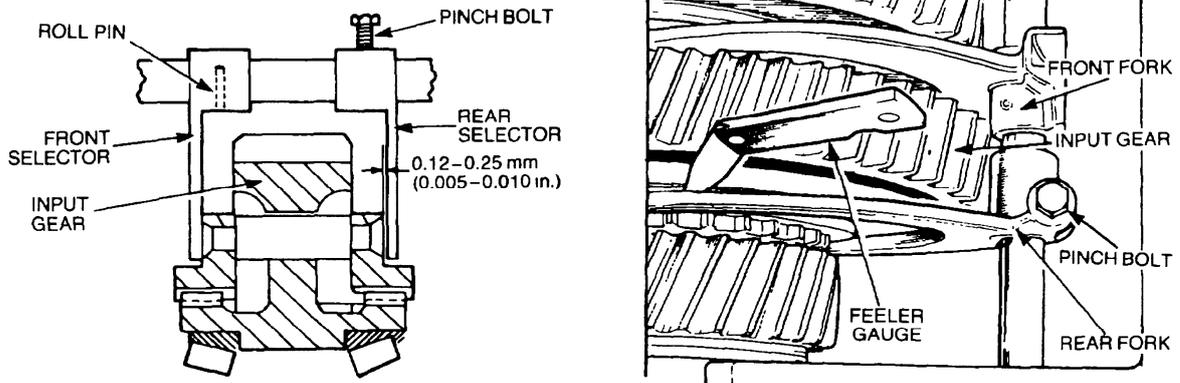

Figure 215 Adjustment of the Transfer Selectors
- s. Adjust the rear fork position on the selector shaft to allow a clearance of 0.12 to 0.25 mm (0.005 to 0.010 in) between the front face of the rear fork and the rear face of the input gear inner member (Figure 215). Tighten the pinch bolt securely.